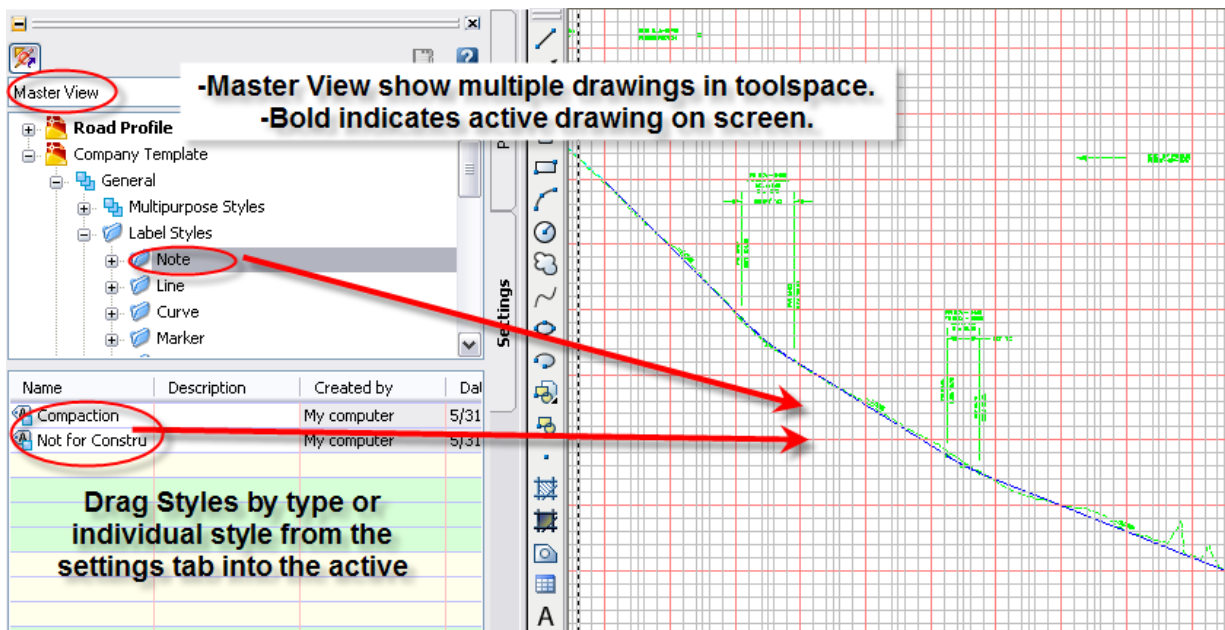

Figure 29. Dragging styles into current drawing.
7. Styles from other drawing files can be dragged from the Settings tab of Toolspace into the current drawing, as shown in Figure 29.